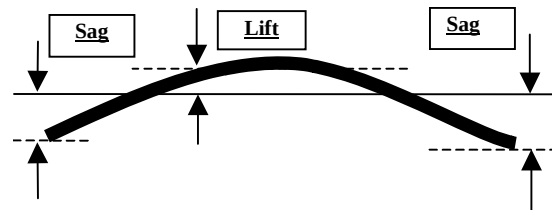

Figure 6
5.1.2.1 *A Type* — substrates of this type have a convex shape. The substrate shape is named “A type”. A type mode consists of lift at center location and two sags at the left and right edges, as shown in Figure 6.